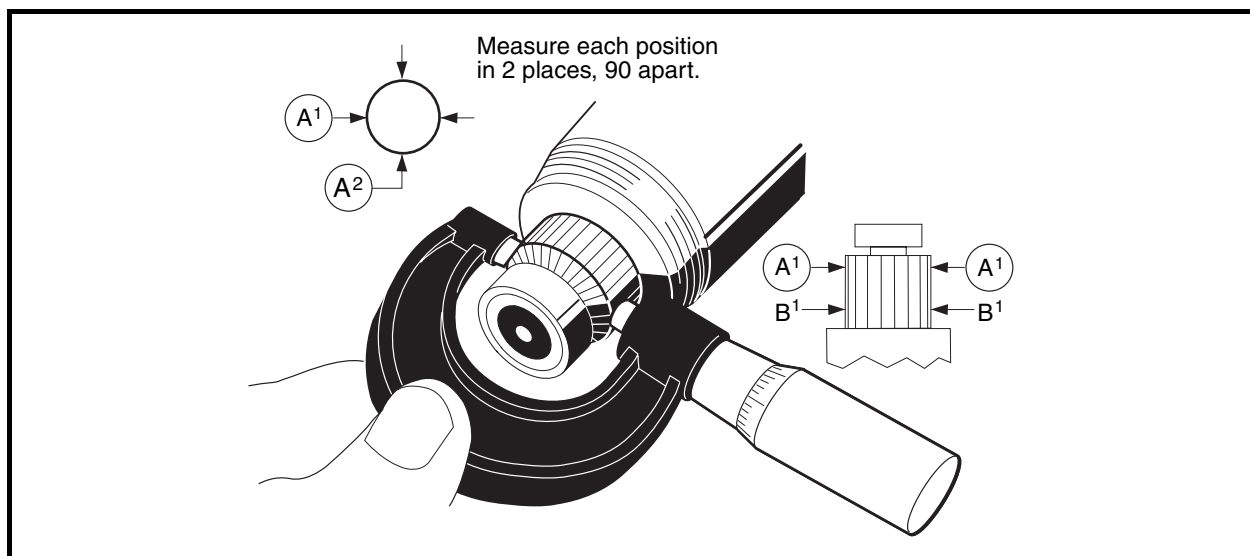

Figure 12-11 Commutator Inspection
2. Use a micrometer and measure the outside diameter at four points: two points 90° to each other to the outside end of the commutator (A¹ and A²), and two points 90° to each other to the inside of the commutator (B¹ and B²). If the commutator diameter is less than 1.535 inches (39 mm) at any of the four locations, replace the armature assembly and bearings (**Figure 12-11, Page 12-7**).